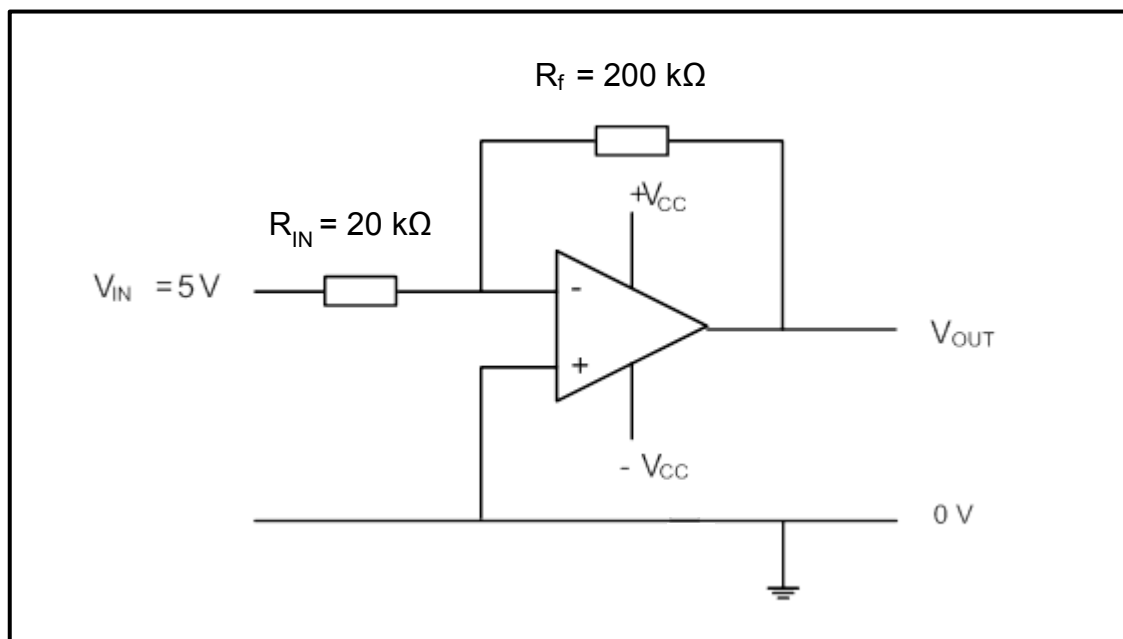

FIGURE 7.12: INVERTING OP AMP
7.12 Refer to FIGURE 7.12 below.